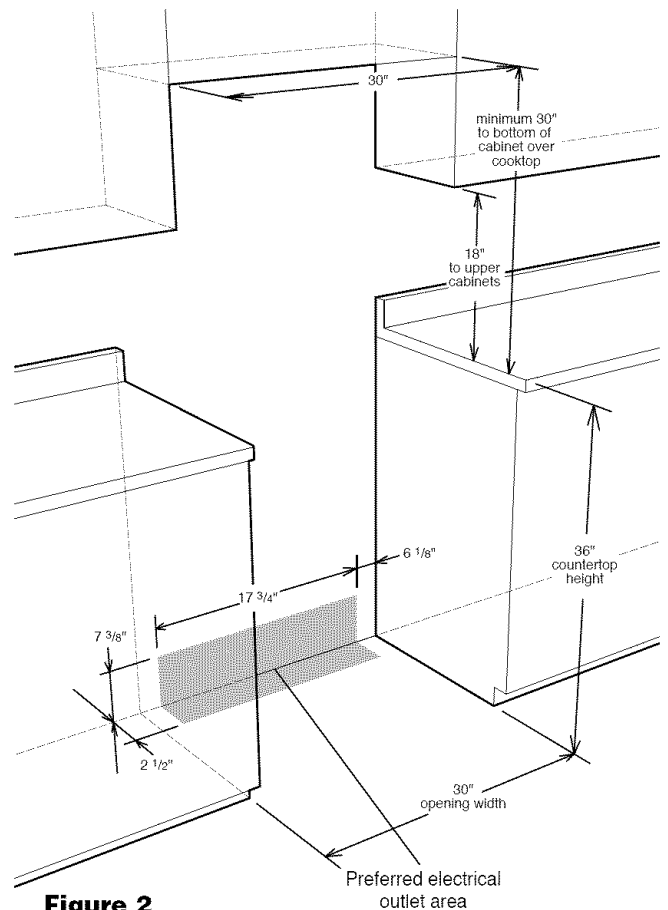

Figure 2
- Dimensions that are shown in Figure 2 must be used. Given dimensions provide minimum clearance. There needs to be a 30-inch minimum clearance between the top of the cooking surface and the bottom of unprotected wood or metal cabinets or a 24-inch minimum when bottom of wood or metal cabinets are protected by not less than a 1/4-inch flame retardant millboard covered with not less than no. 29 msg sheet-steel, 0.015-inch stainless steel, 0.024-inch aluminum or 0.020-inch copper. Follow all hazard and incorrect countertop and cabinet cuts. Note that the gray shaded area on Figure 2 indicates the location for the electrical receptacle/connection.
Before wiring the range, review the suggested power source location drawing in Figure 2. If connecting to a 4-wire electrical system for a new branch-circuit or mobile home use a 4-wire connection.
Before wiring the range, review the suggested power source location drawings in Figure 2. If connecting to a 4-wire electrical system: